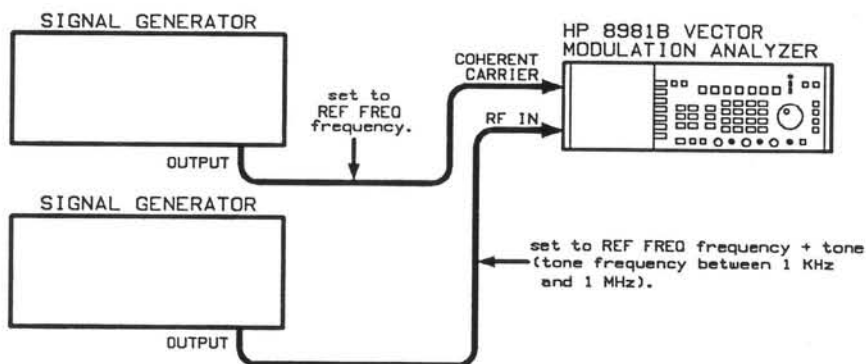
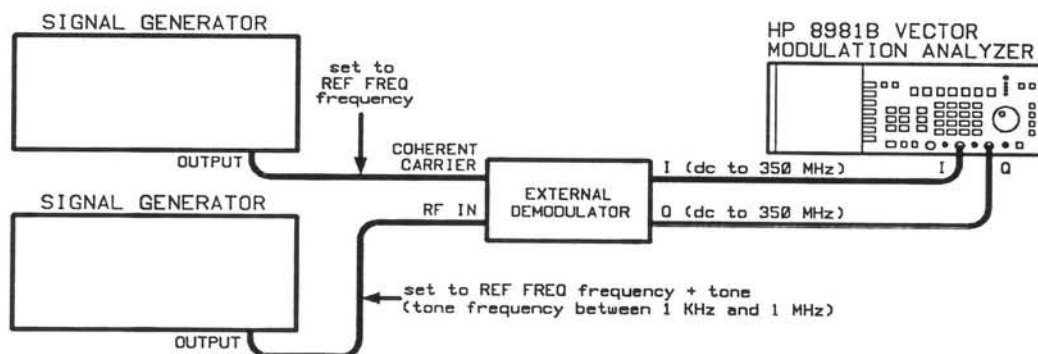

Figure 3-16. Equipment Setup—Internal Demodulator
Figure 3-17. Equipment Setup—External Demodulator
2. Set up the instrument and other equipment as shown in Figure 3-16 for the internal demodulator or Figure 3-17 if an external demodulator is used.